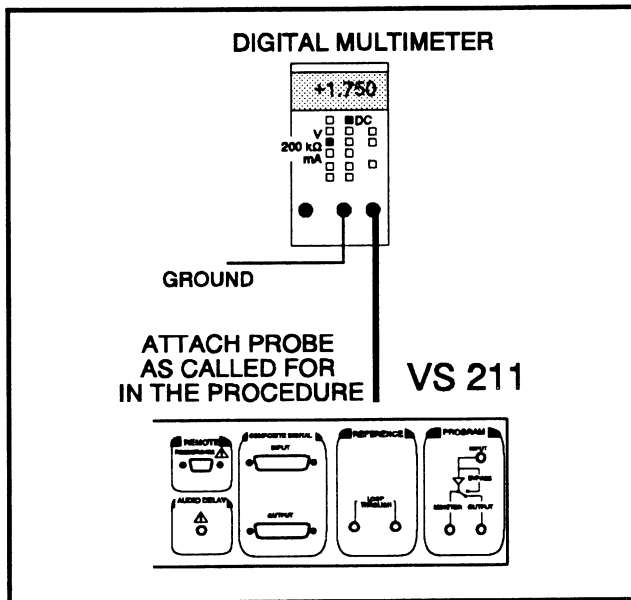

Fig. 4-23.
- Connect the test equipment as shown in Fig. 4-23.